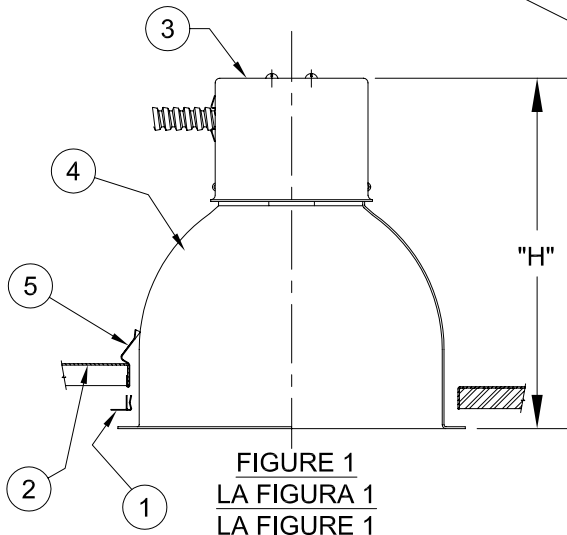

FIGURE 1
- 1.) Attach three Ceiling Clips (1) (equally spaced) around rim of Plaster Frame (2) opening (See Figure 1).
- 2.) Snap Socket Cover (3) over Reflector (4). (See Figures 1 & 2)
FIXTURE	FIG. 1 DIMENSION "H"
LA FIGURE 1